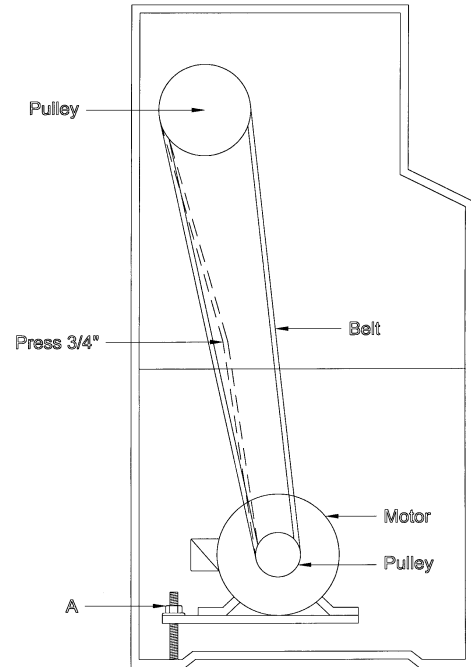

Fig. 26
3. Take tension off old belts by loosening motor mount hex nut (A, Fig. 26).